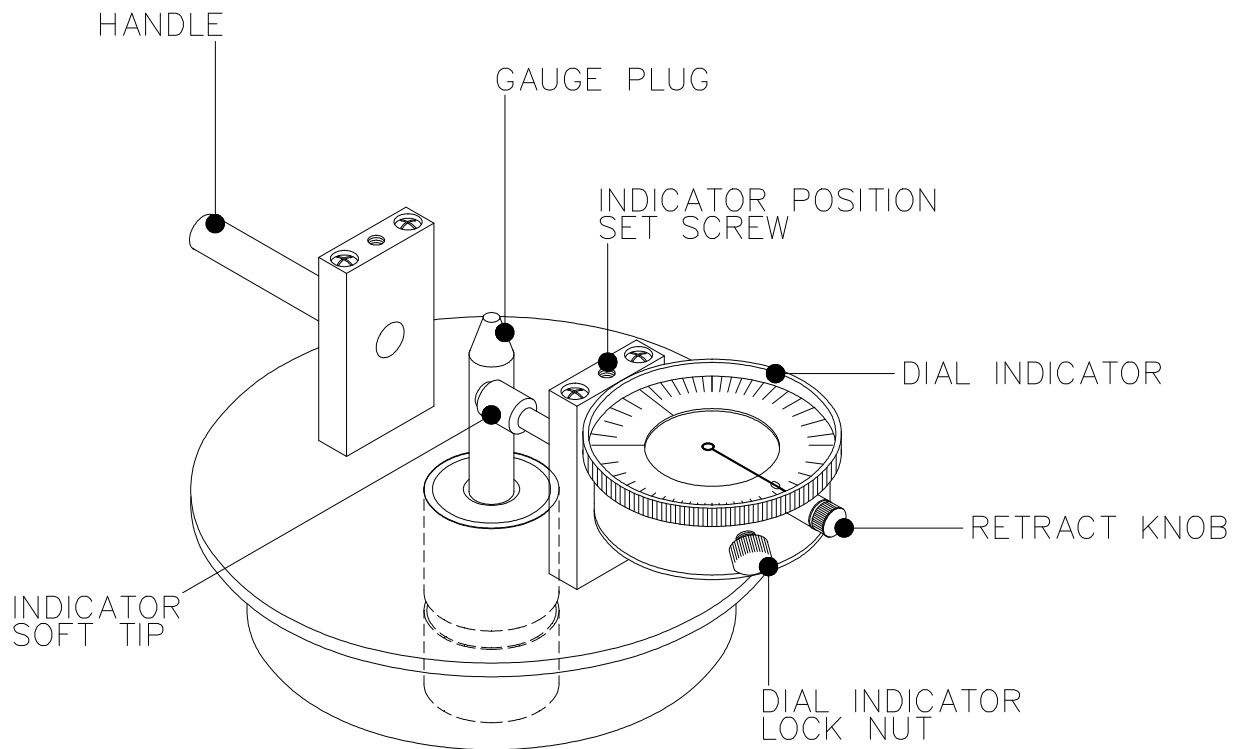

Figure 1
Checking spindle and vessel axis alignment Raise the system drive head to its upper most position and lock in place. Remove vessels and paddle / basket shafts from the unit. Install the plug gage (item 3) into the calibration adapter assembly (item 2). The indicator preload should be at least one revolution, but less than two. Loosen the dial indicator lock nut and adjust the indicator dial to zero and tighten the lock nut (see fig 1). Remove the gage plug and return it to the storage case (item 1). Install the calibration adapter assembly (item 2) into the right front vessel mounting hole. Install the alignment shaft (item 5) into the corresponding spindle drive and tighten the spindle collet. Temporarily retract the dial indicator shaft while lowering the system drive head to a position where the alignment shaft engages the dial indicator just below the spindle collet. Rotate the calibration adapter assembly one full revolution while observing the dial indicator reading. Record the actual maximum displacement from zero on the Suitability Data Record sheet. The maximum displacement should not exceed 1.00 mm (.04 in). Repeat this procedure for the left front vessel position.